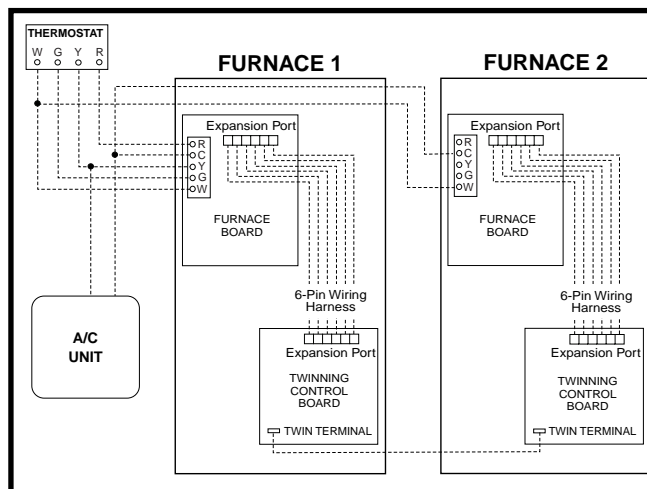

Figure 40. Single Stage Twinning
- The thermostat must be installed according to the instructions supplied by the thermostat manufacturer. Low voltage connections (24 VAC) from the thermostat are wired to the terminal strip on the integrated control in the furnace. Figure 40 contains the proper connections for heating only (two-wire) and heating/cooling (four-wire) applications. Recommended minimum wire gauge for thermostat wiring is shown in Table 5 (page 32).
If both single stage furnaces are upgraded to the fixed speed iSEER™ blower, the twin terminal on the blower control boards (Figure 40, page 32) may be used to twin the single stage furnaces only if the following criteria are met:
For twinning of single stage furnaces equipped with fixed speed iSEER™ blowers, refer to Figure 40 and the following instructions:
3. Refer to Figure 40 for the remaining thermostat connections. The **C** connection must be made between the twinned furnaces to ensure proper performance.